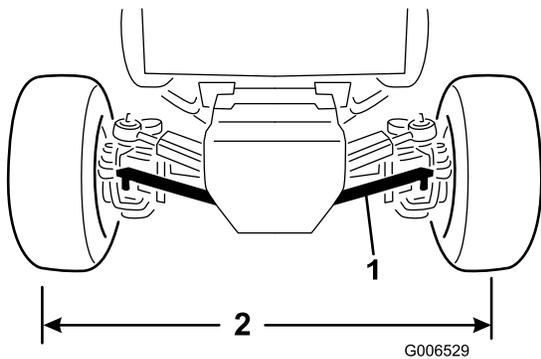

Figure 59
- Remove nuts securing one tie rod ball joint to the mounting bracket on the axle and disconnect the ball joint from the axle (Figure 59).
4. Rotate the tie rod ball joint in or out until the center-to-center distance at front and back of rear wheels is the same (Figure 59).